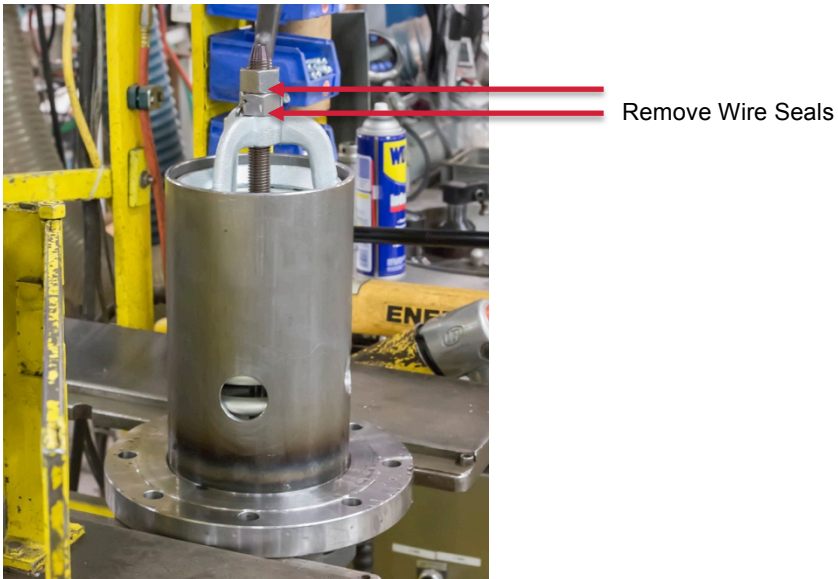

Figure 8-1 Remove Wire Seal
- 8.1.4 Using a manual or an air-operated press, invert the valve to compress the spring and relieve pressure from the spring-adjusting nut. Use a tubular yoke (Figure 8-1) that is partially cut away to press down on the spring follower, further compressing the spring.